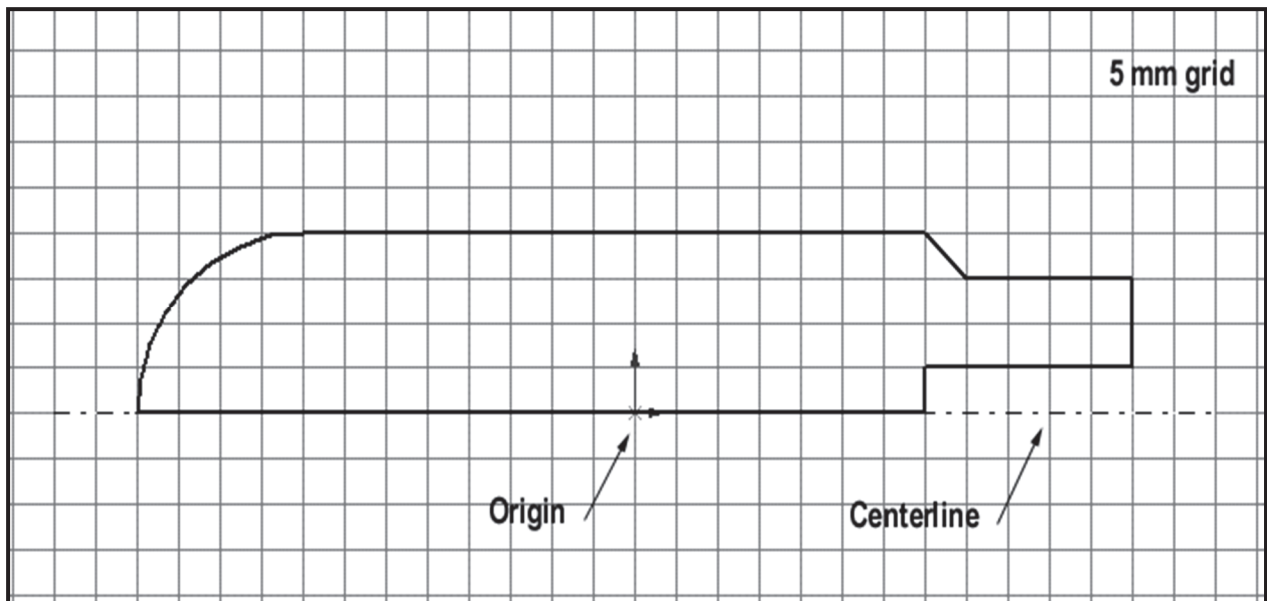

Figure 1-38. The 2-D Sketch for the Machine Handle.
In the previous exercises, the parts were designed using English units (inches). Metric, or System International (SI), units are also common in engineering practice. In Exercise 1.4, the Machine Handle will be designed using millimeters as the basic units (see **Figure 1-38**). In addition, because of the round symmetry of the machine handle, you will create a **Base Revolve** using the 2-D sketch rather than a base extrude.
In the **Feature Manager Tree**, Select the **Front** plane and click the **Sketch Tab** and select the **Sketch** icon to start your sketch. The screen area should show a metric grid with spacing every 5 millimeters. You may need to **Zoom in**. Using the **Centerline**, **Line**, and **Centerpoint Arc** tools, sketch the enclosed 2-D profile shown in **Figure 1-38**.